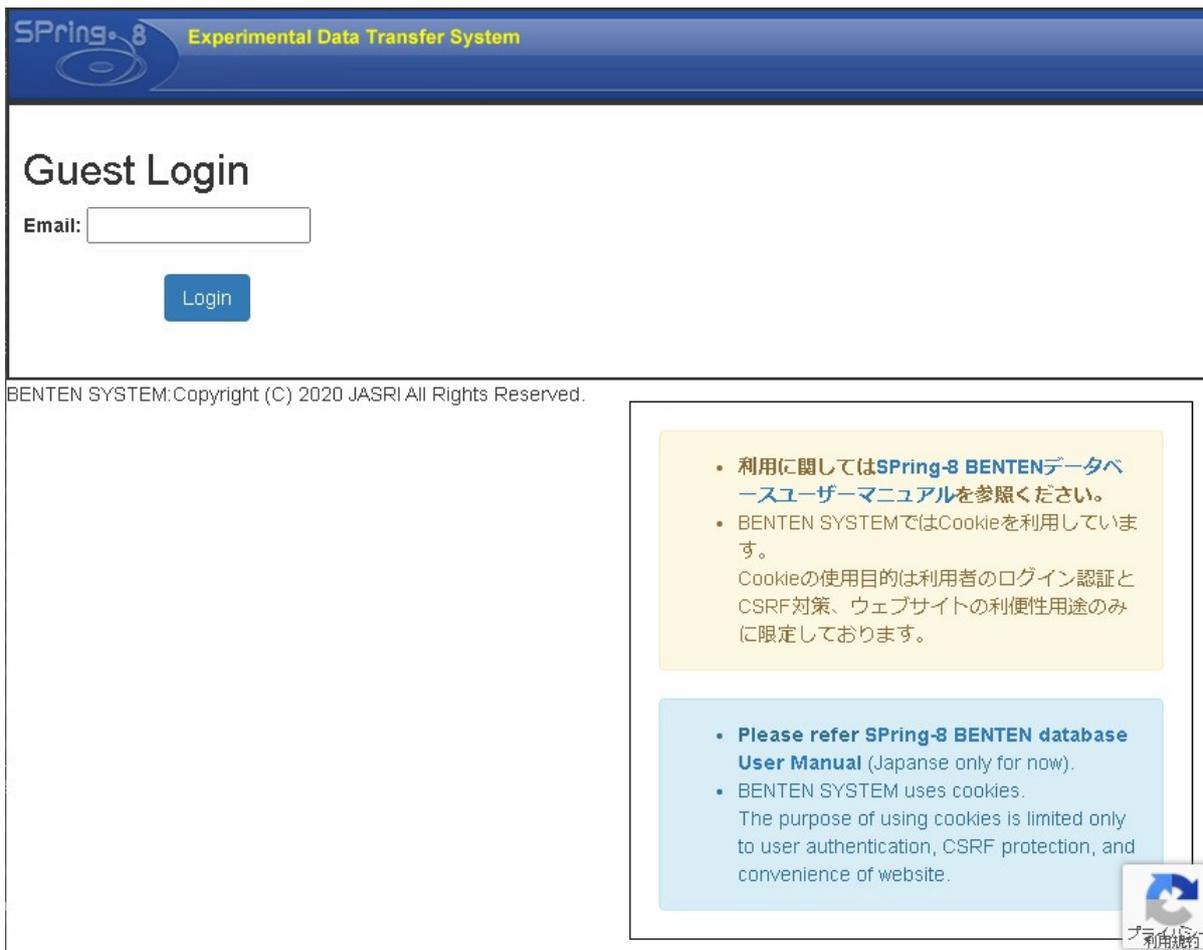

Fig. 2
- (2) UI site (SPring-8 / SACLA electronic application system (<https://user.spring8.or.jp/>)), Enter your user name (SPring-8 ID) and password, and click the Login button. To log in with your personal email address, click "Guest login with Email" under the Login button. The guest login screen shown in Figure 2 will be displayed. Enter your email address and click the Login button. If you log in normally, the screen (Fig. 3) related to email address authentication (two-factor authentication) will be displayed.